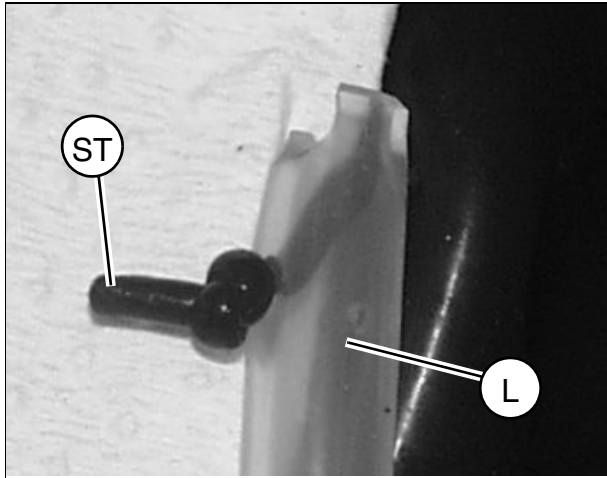
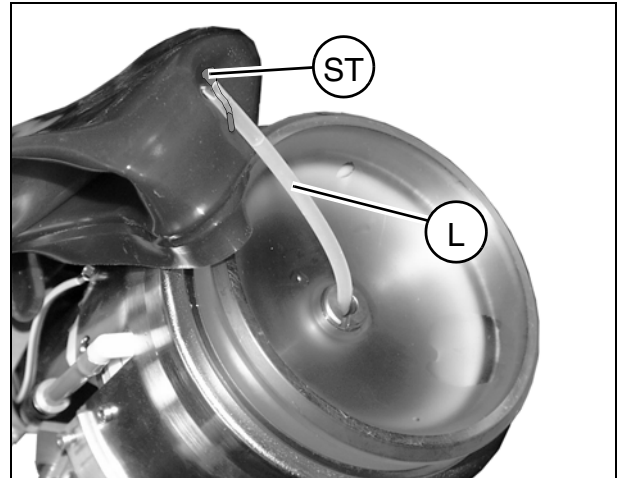

Fig. 8
Fig. 9
- Remove the coupling bellows, carefully pulling the small pin out of the air suction hose inside the coupling bellows (refer also to Fig. 8 and Fig. 9).
- Insert the air suction hose centrally through the shock wave head (L/ Fig. 9).
- Insert the air suction hose (L) as shown in Fig. 8 and Fig. 9 carefully over the pin (ST) in the coupling bellows. Tie a knot to secure it (Fig. 8).
- Install the coupling bellows; when doing this, ensure that the pin (ST/ Fig. 9) for attachment of the hose is positioned at the highest point and is seated correctly in the clamp.
- Check whether the air suction hose inside the coupling bellows is actually secured at the topmost position (refer to the section "Installing the shock wave head" and Fig. 8).